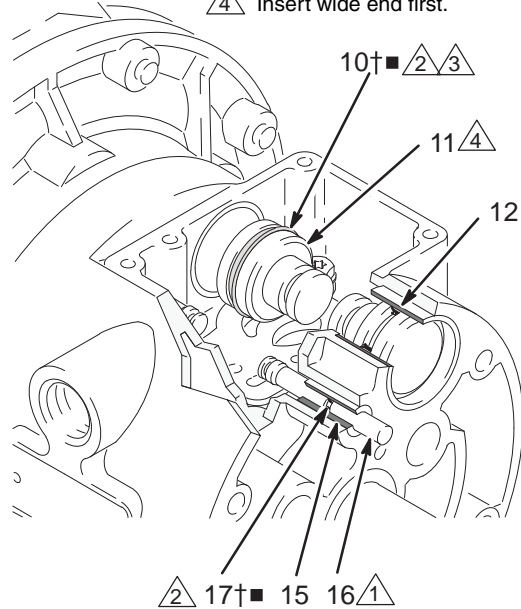

Fig. 10
4. Pull the two actuator pistons (11) out of the bearings (12). Remove the u-cup packings (10) from the pistons. Pull the pilot pins (16) out of the bearings (15). Remove the o-rings (17) from the push pins. See Fig. 10.
6. Inspect the bearings (12, 15) in place. See Fig. 10. The bearings are tapered and, if damaged, must be removed from the outside. This requires disassembly of the fluid section. See page 23.
4. Install an o-ring (17†■) on each pilot pin (16). Grease the pins and o-rings. Insert the pins into the bearings (15), **narrow** end first. See Fig. 10.
5. Install a u-cup packing (10†■) on each actuator piston (11), so the lips of the packings face the **narrow** end of the pistons. See Fig. 10.
6. Lubricate the u-cup packings (10†■) and actuator pistons (11). Insert the actuator pistons in the bearings (12), **wide** end first. Leave the narrow end of the pistons exposed. See Fig. 10.